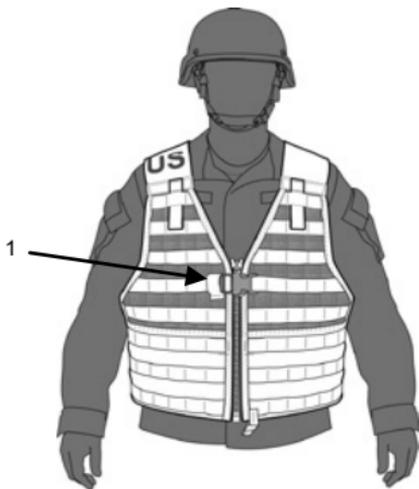

Figure 5. Free-Running Ends of Excess Webbing Rolled and Stowed.
2. Secure free-running end of the webbing (Figure 5, Item 1).